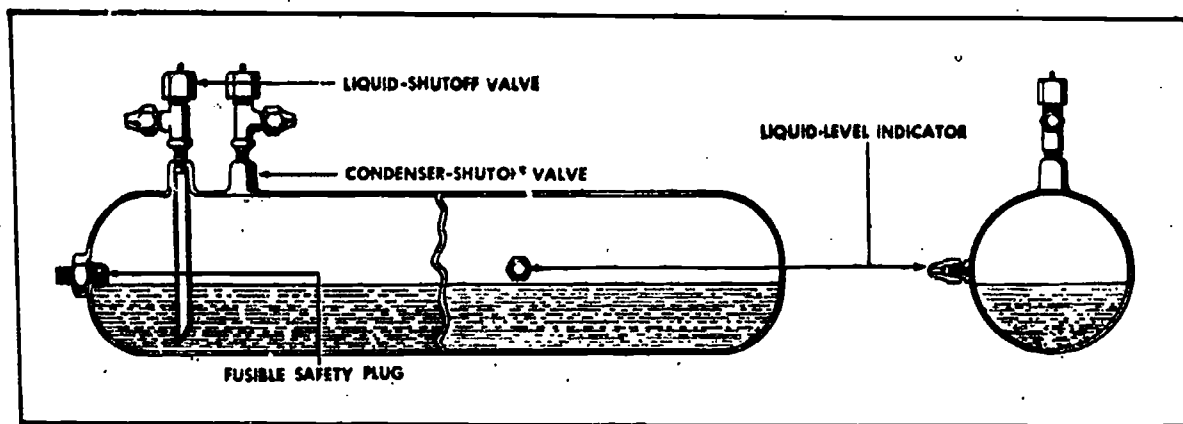

Fig 2-12. Horizontal liquid receiver.
b. Construction. On units of 15 hp or less the receiver is usually a cylindrical steel tank mounted on the base of the unit or underneath it. The receiver is normally equipped with an inlet valve (condenser service valve), outlet valve (receiver or king valve), and a pressure-relief safety device. The safety device is sometimes a simple fusible safety plug of low-melting point metal (about 160° F), or it can be a relief valve that opens at a preset pressure. This pressure can be from 210 to 260 psi, depending on the unit's design and type of refrigerant being used in the system. This type relief valve will close again when the pressure drops below its pressure settings. Some receivers are equipped with a purging valve which is used to purge air and noncondensibles from the system. Many receivers are also equipped with two or more test valves located at different levels in the receiver. These valves are also used to determine the height of the liquid level in the receiver. For the same purpose, other receivers are equipped with "bull's-eye" sight glasses, tubular glass gages, or magnetic or float-operated refrigerant-level gages. Figure 2-12 shows a liquid receiver.